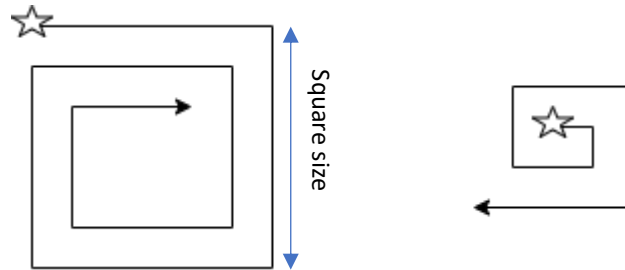

Figure 3: Inward Rasterfahrt (Left) and Outward rasterfahrt (Right). The star indicates the first shooting point.
- a. **Inward:** Starts at the upper left corner and moves to the right first (Figure 3, left)
- b. **Outward:** Starts at the center and moves to the right first (Figure 3, right)
5. **Square size:** The Raster/Snail the laser follows has to be a **square**. So the square size indicates the length of one side of the square along which the laser shoots in mm (Figure 3, right). **The Square size must be a multiple of the pitch.** Please note that the **square size differs from the area that is actually being shot**. This depends on the currently used laser mask. E.g. if the laser shoots fields of 2x2 mm, the actual square size after shooting increases by 1mm on each side.